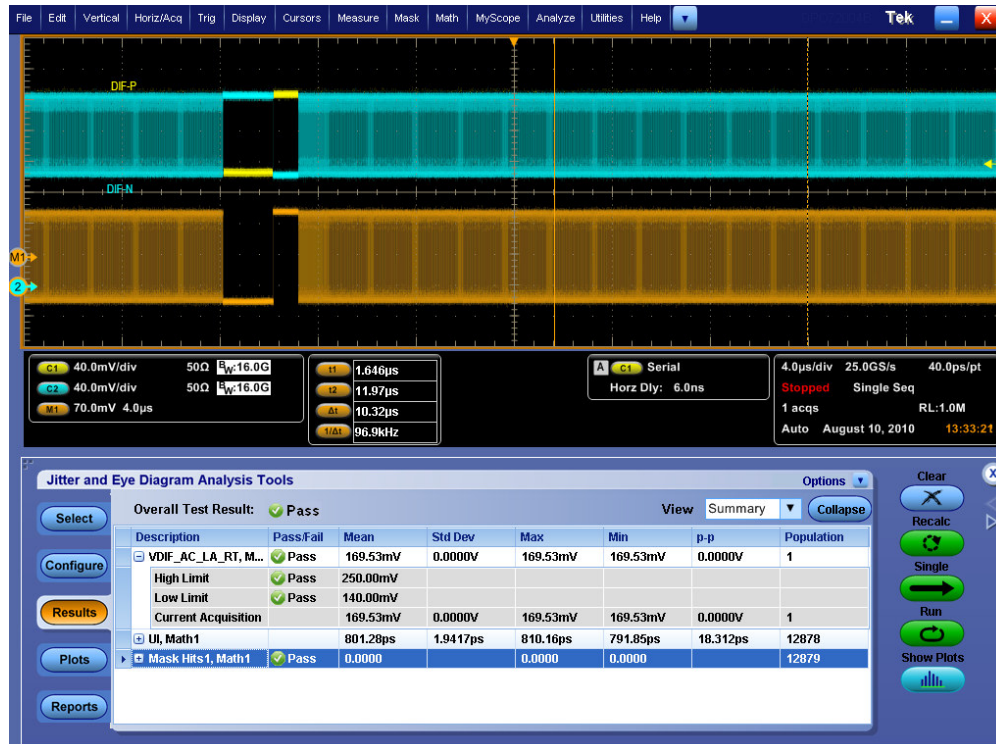
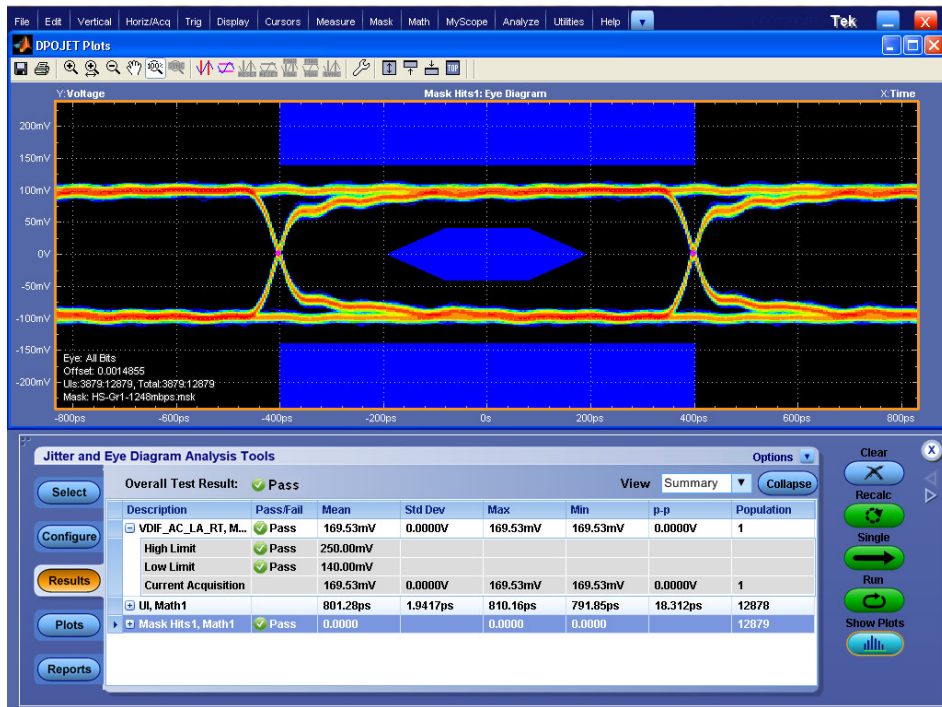

Figure 5: VDIF_AC_LA_RT_TX Measurements
Figure 6: VDIF_AC_LA_RT_TX EYE Diagram
3. Click on **Single Run** and Verify the result as shown below in the Figure 5 and Figure 6.